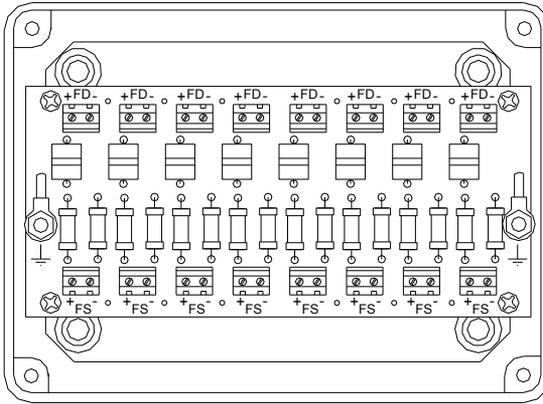
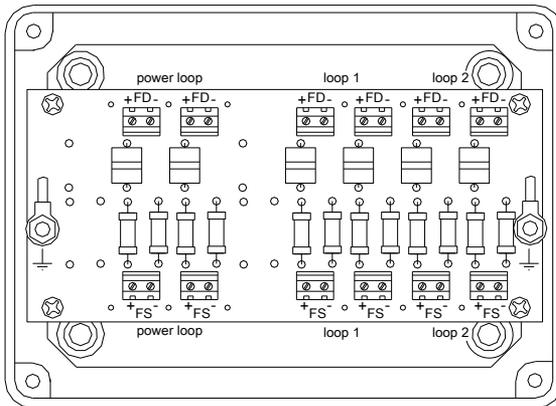

Fig.1
Fig.2
4.1. Connecting method (fig.1 DMP 508) (fig.2 DMP 5082)